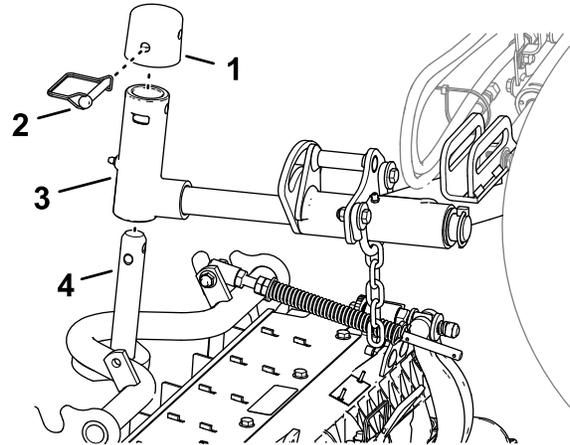

Figure 23
- Slide a cutting unit under the lift arm (Figure 23).